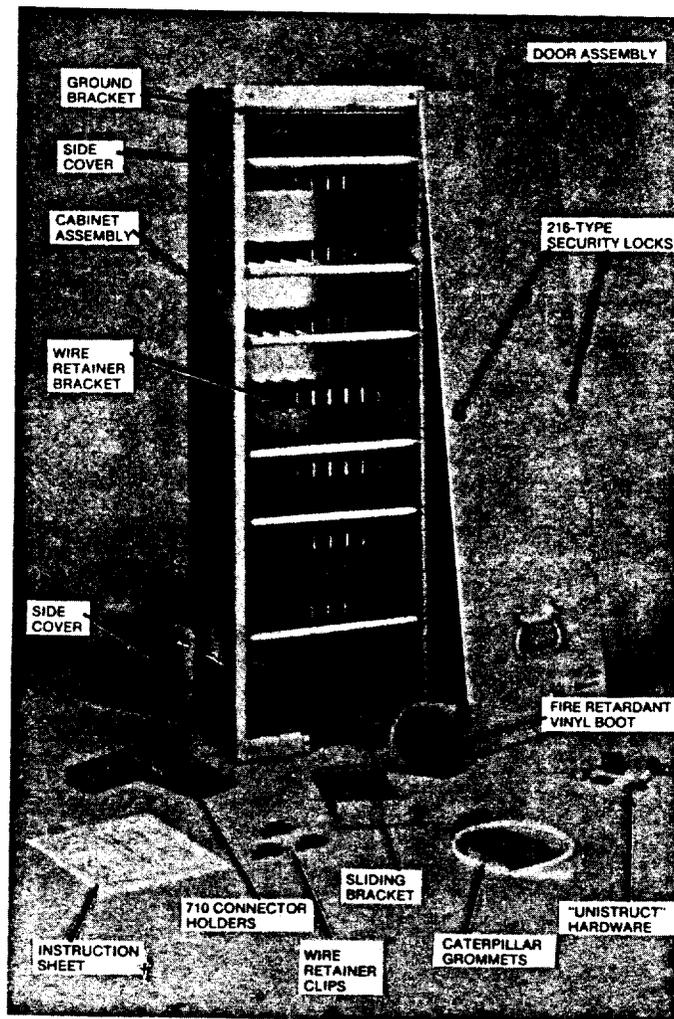

Figure 8. Cable Rearrangement Facility (CRF)
4.10 The CRF (Figure 8) is a sheet metal splicing cabinet that provides a fire-resistant termination capacity of up to 5,000 pairs using 710-type connectors. Support brackets and wire retainers result in splice density and organizational efficiencies unique to this product.